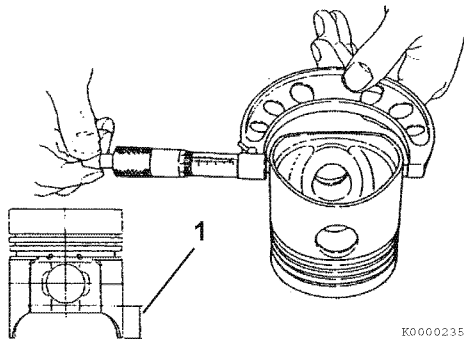

Figure 6-66
4. Measure the diameter of the piston skirt at 90° to the wrist pin bore as shown (**Figure 6-66**). Measurements must be taken at a specified distance (**Figure 6-66, (1)**) from the bottom of the piston, based on engine model. Record the measurements. See *Piston* on page 6-9 for specifications.